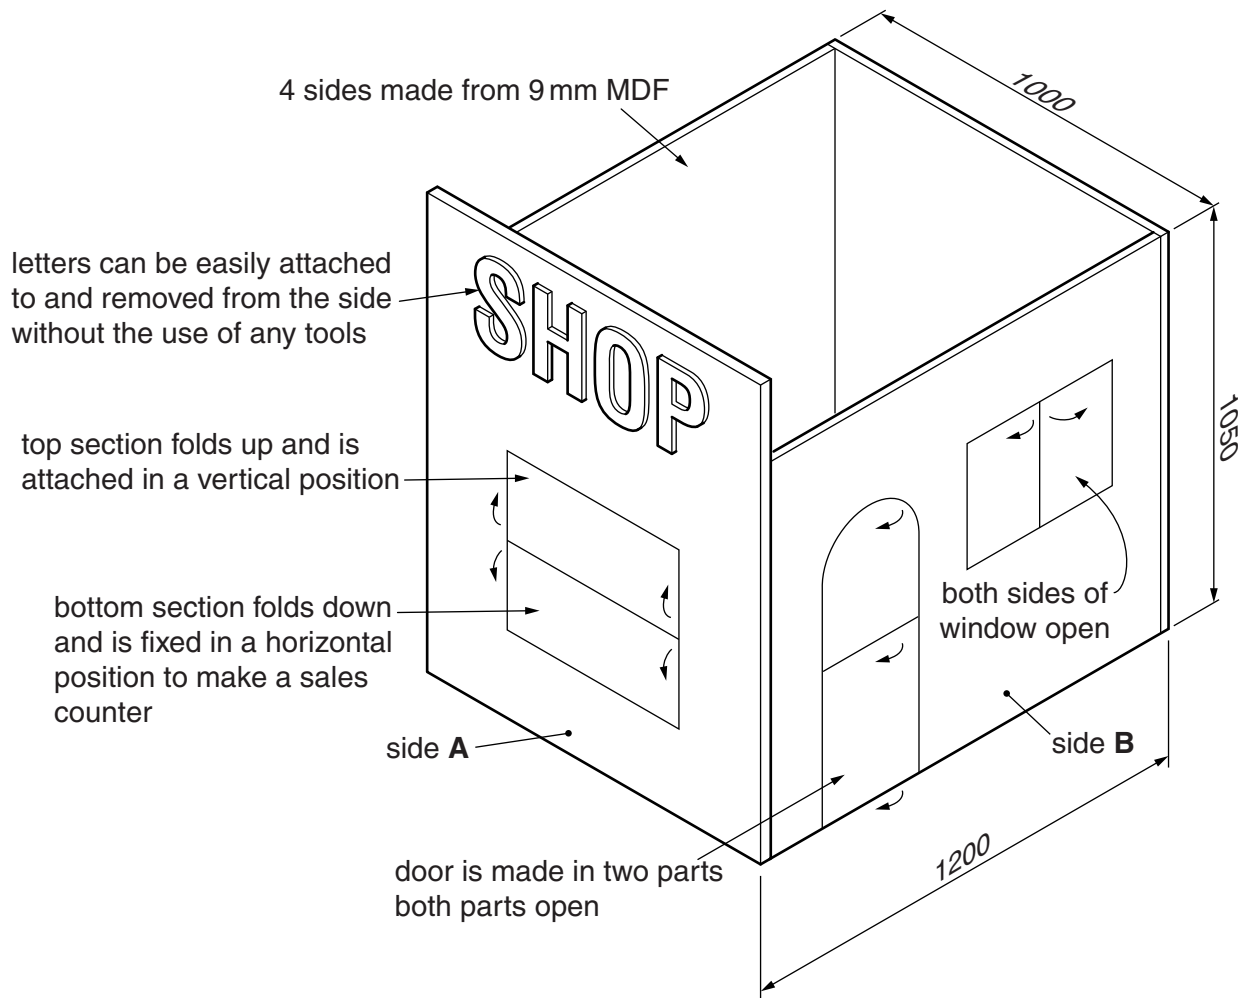

Fig. 9
- 9 Fig. 9 shows an incomplete idea for a toy shop which will be used by children aged 3–5 years.